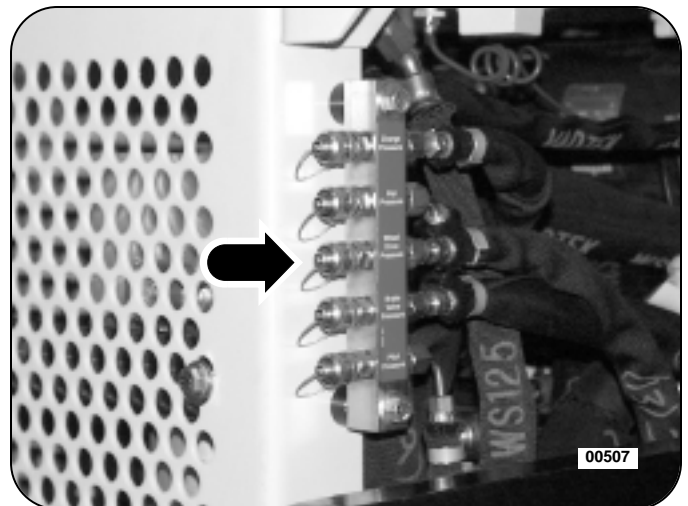

Figure 16: Wheel Drive Pump Pressure Gauge Port Tap
7. Connect the 10,000 psi pressure gauge, with the TIMBCO quick-couple adapter attached, to the gauge port tap on the wheel drive pump. See Figure 16.